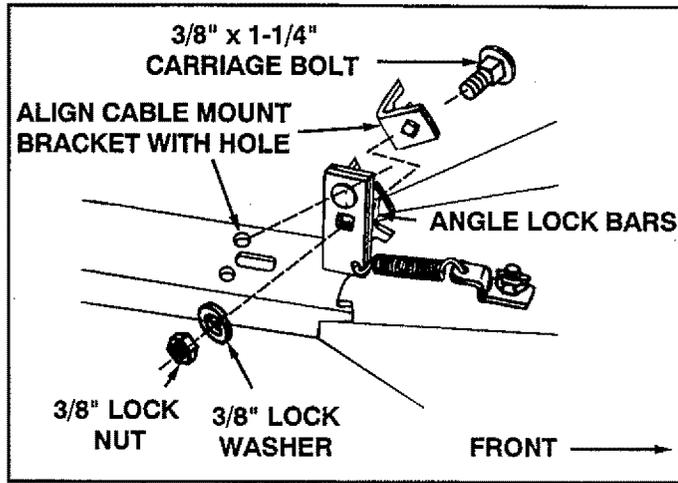
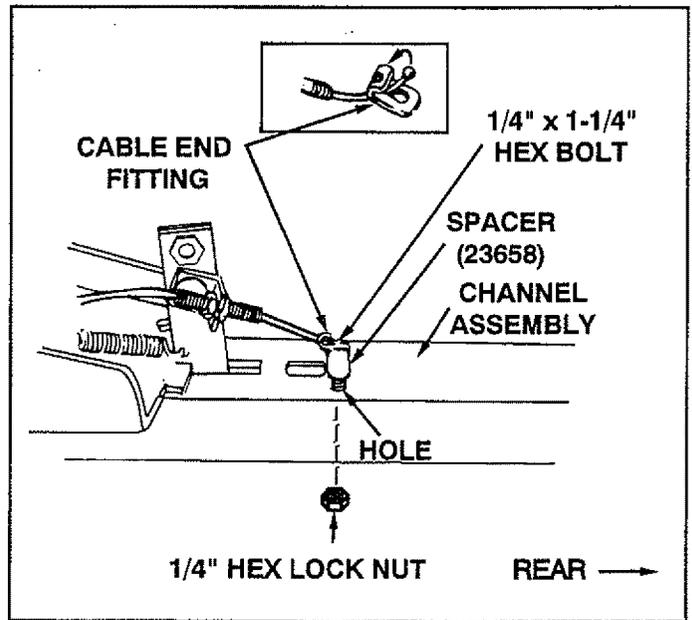

FIGURE 21 (Right Hand Side View)
FIGURE 23 (Left Hand Side View)
- Assemble  $3/8"$  x  $1-1/4"$  carriage bolt through square hole in cable mount bracket and through square hole in angle lock bars as shown in figure 21. Note that the top bolt faces in opposite direction. Using pliers hold the cable mount bracket in position, angling down towards small hole in channel as shown in figure 21, and secure with a  $3/8"$  lock washer and a  $3/8"$  lock nut. **Tighten.** See figure 21. See also figure 23 for correct angle for cable mount bracket.
- Assemble ball end of control cable up through hole in cable end fitting and pull till ball slips inside curled edge of fitting as shown in figure 23. Note: If ball wont slip under edge of curl it will need to be inserted through open end of curl. See figure 23
- Assemble  $1/4"$  x  $1-1/4"$  hex bolt down through the cable end fitting, the  $5/8"$  long spacer and the left hand hole in the channel assembly. Secure with a  $1/4"$  hex lock nut. See figure 23. **Tighten.**